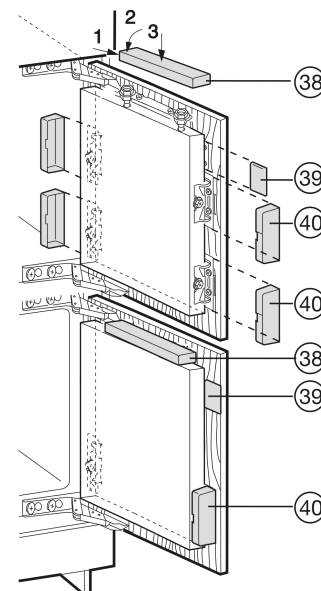

Fig. 31
- ▶ Position the upper covers Fig. 31 (38) and snap into place.
- ▶ Place the side covers Fig. 31 (39) in position, slide to the limit and then press until they snap audibly into place.
- ▶ Attach the covers Fig. 31 (40) to the side and then draw them forward with a screwdriver, so that they snap properly into place.